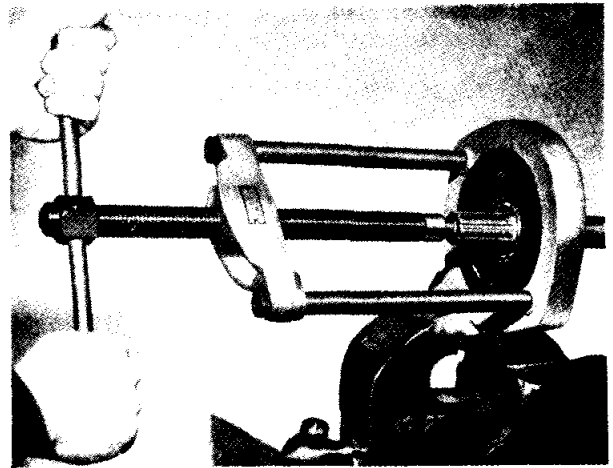

Fig. 7 Removing hub bearing utilising Churchill Tool No. S4615 Codes 8 and 10 with S4221 frame and slave ring.
- (i) Remove the hub bearing from the shafts, utilising the Churchill Tool No. S4615 Codes 8 and 10. (See Fig 7.)
- (f) The half shafts can now be withdrawn from the axle casing, the bearing housings tapped off the bearings and the bearings withdrawn with a suitable puller. (As shown in Fig. 7.) The grease seal can then be tapped out of the bearing housings.